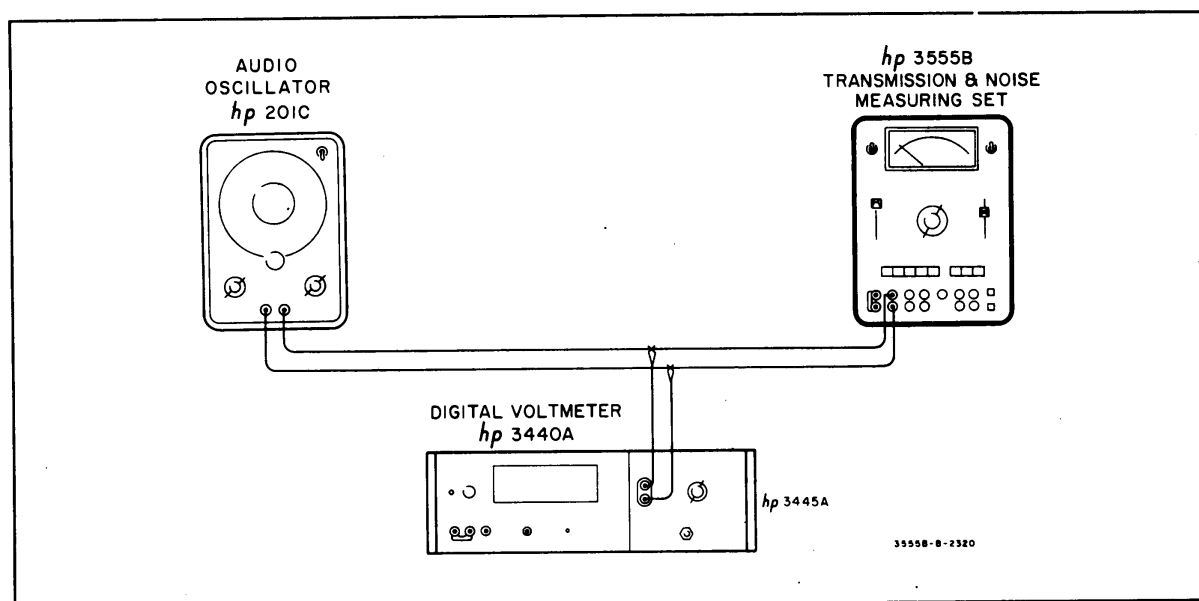

Figure 5-3. +20dBm and +30dBm Level Accuracy Check
- To check the top two ranges, connect the equipment as shown in Figure 5-3 and set the 3555B controls as follows:
- To check the 900 ohm function on the +20dBm and +30dBm ranges, connect a 300 ohm \pm 0.1% resistor in series with the 3555B input in Figure 5-3.